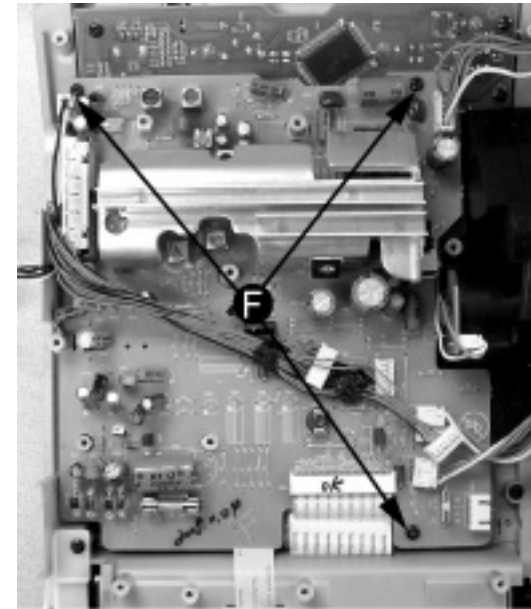

Figure 5
- 6) Loosen 3 screws F to remove the Main Board as shown in figure 5.